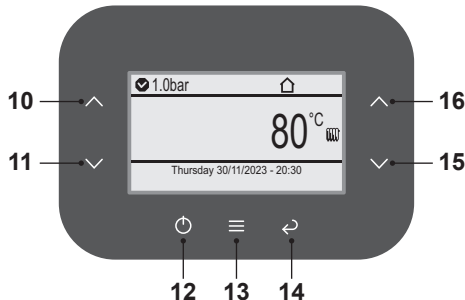

Fig. 9.1
- Press key 13 (Fig. 9.1) to go to the main menu (Fig. 9.2).
- Press key 10 or 11 (Fig. 9.1) to select the desired menu (Fig. 9.3).
- Press key 13 (Fig. 9.1) to access the selected menu (Fig. 9.4).
- Press key 10 or 11 (Fig. 9.1) to select the desired menu from those available (Fig. 9.5).
- Press key 13 (Fig. 9.1) again to highlight the value to be changed.
- Press key 13 (Fig. 9.1) to confirm the change or key 14 to exit without changing the value (return to previous level).